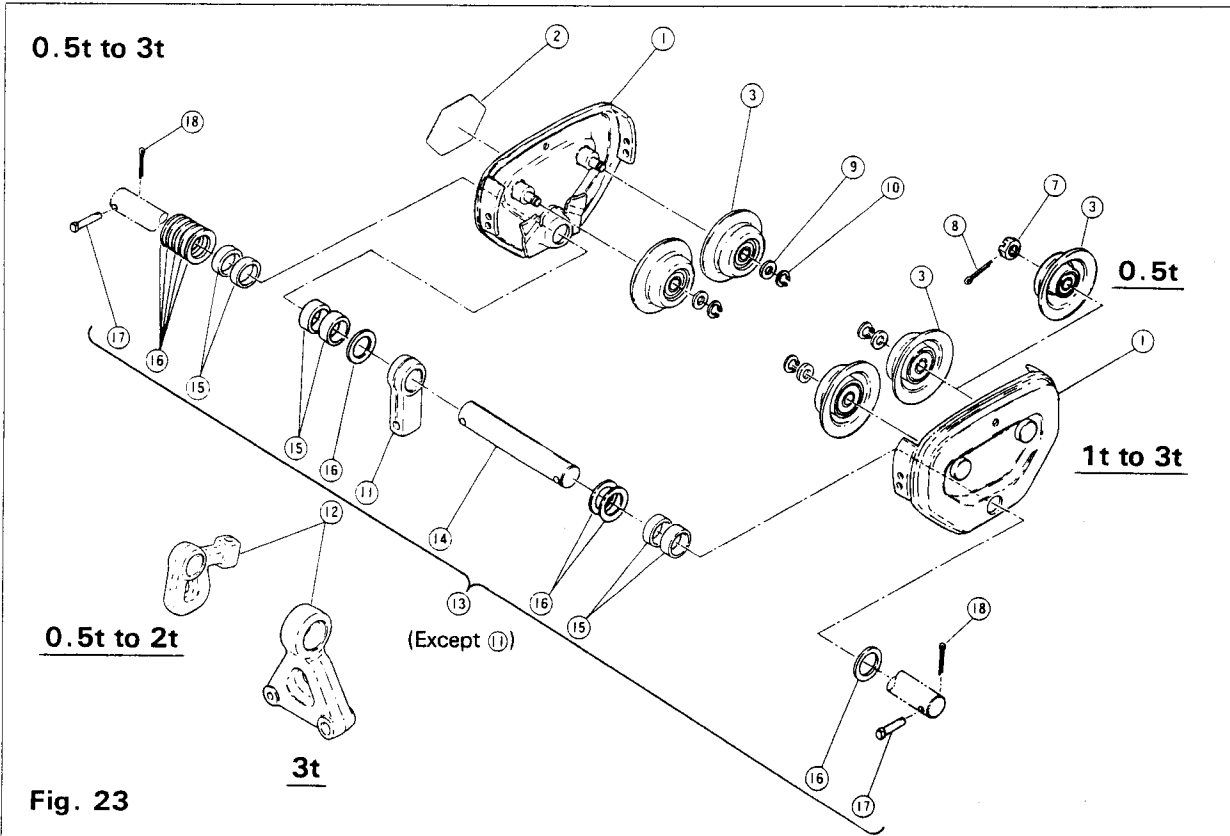

Fig. 23
- Fig. 23 : for 0.5t to 3t plain trolley